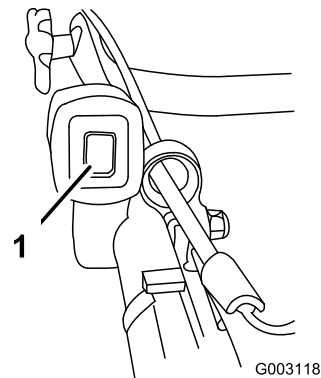

Figure 17
1. Press and hold the engine stop switch until the engine stops (Figure 17).